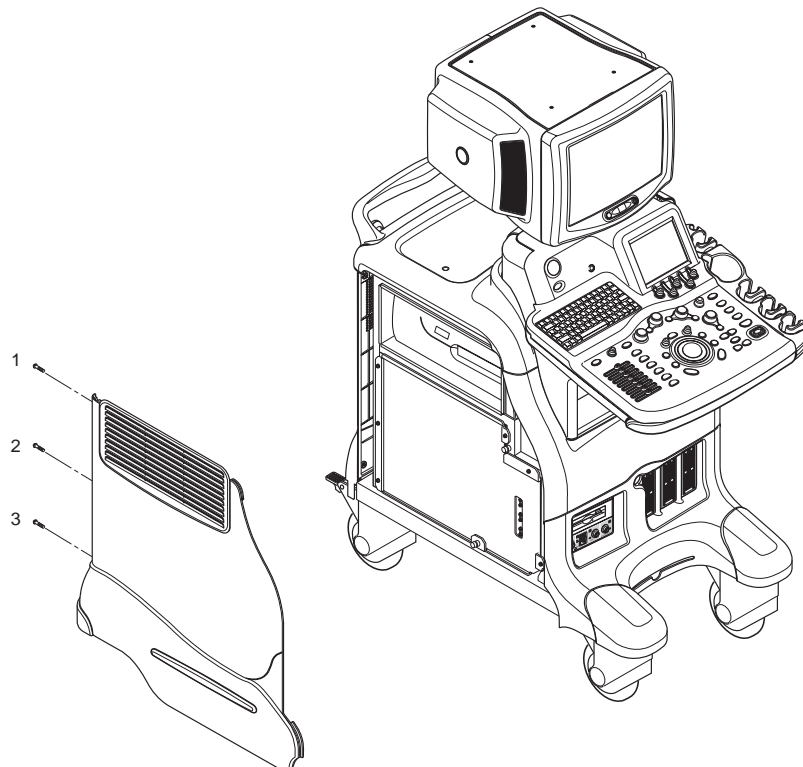

Figure 8-48 Removing the Left Cover
- 3.) Remove the Left Cover. Refer to Figure 8-48.